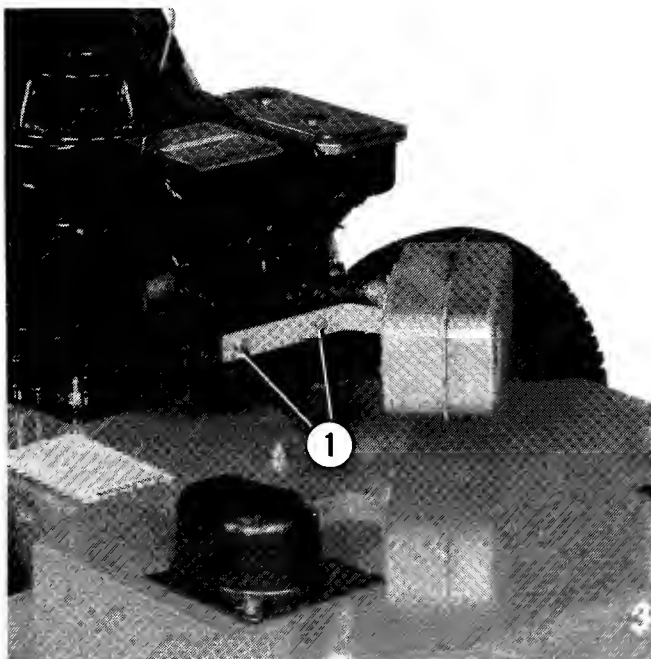

Figure 5 Muffler Installed
- B. Slip the muffler over the engine outlet pipe, then connect the bracket to the engine using two  $\frac{1}{4}$ " x 1" grade 5 bolts and two  $\frac{1}{4}$ " lock washers. See Fig. 5.